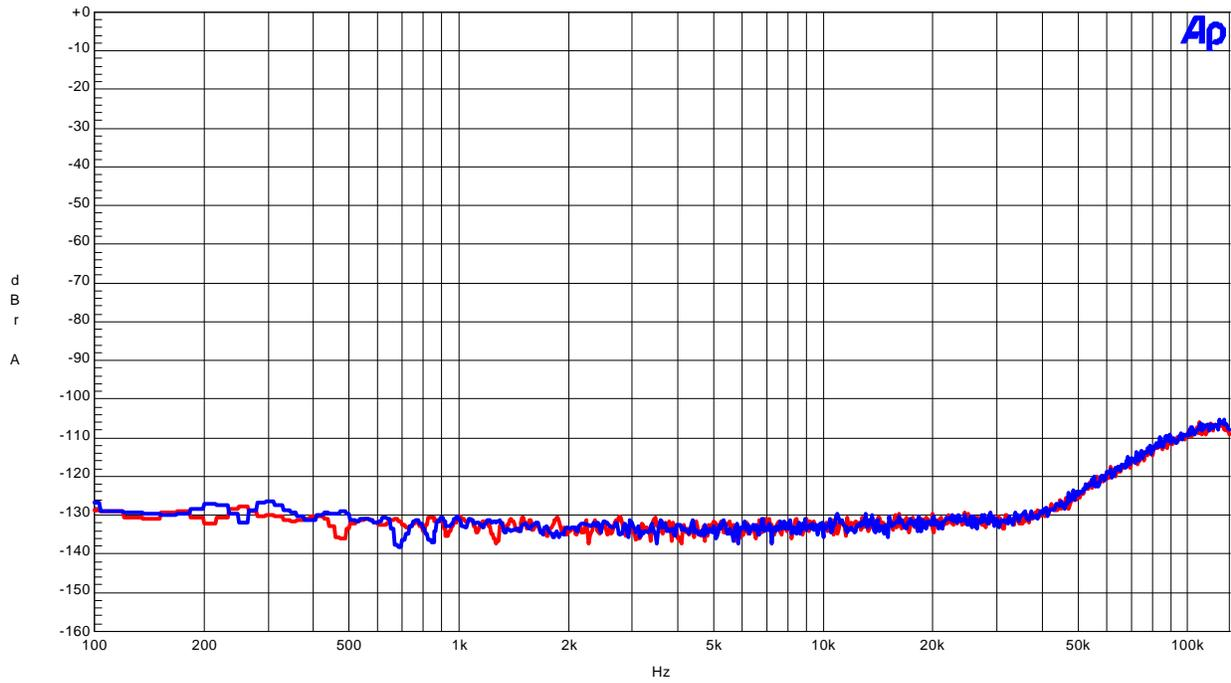

Figure19. FFT (out-of-band noise)
- Figure19. FFT (outband noise)